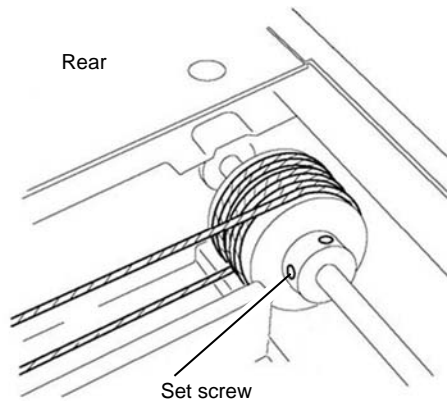

Figure 5 First rear set screw
7. Tighten one of the rear set screws, Figure 5.